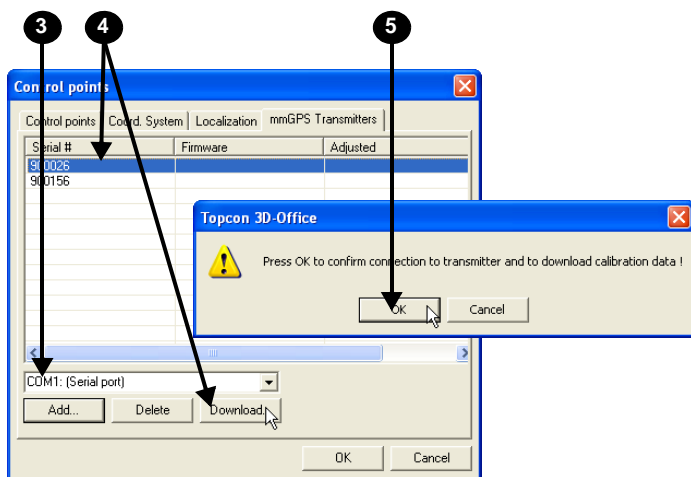

Figure 9-23. Download Transmitter Calibration Data
5. Click **Ok** at the confirmation (Figure 9-23).